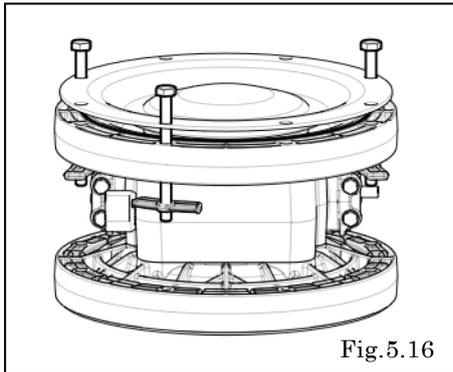

Fig.5.16
- Adjust the positions of the diaphragm holes to the screw holes on the air-chamber. Then put three bolts through three of the diaphragm holes and temporarily tighten the bolts. At this point, there should be even intervals between these three bolts or three holes. (The bolts should be tightened by using the backing plates as Fig.5.16.)
- Remove the bolts that were temporarily fastened at Fig.5.16.